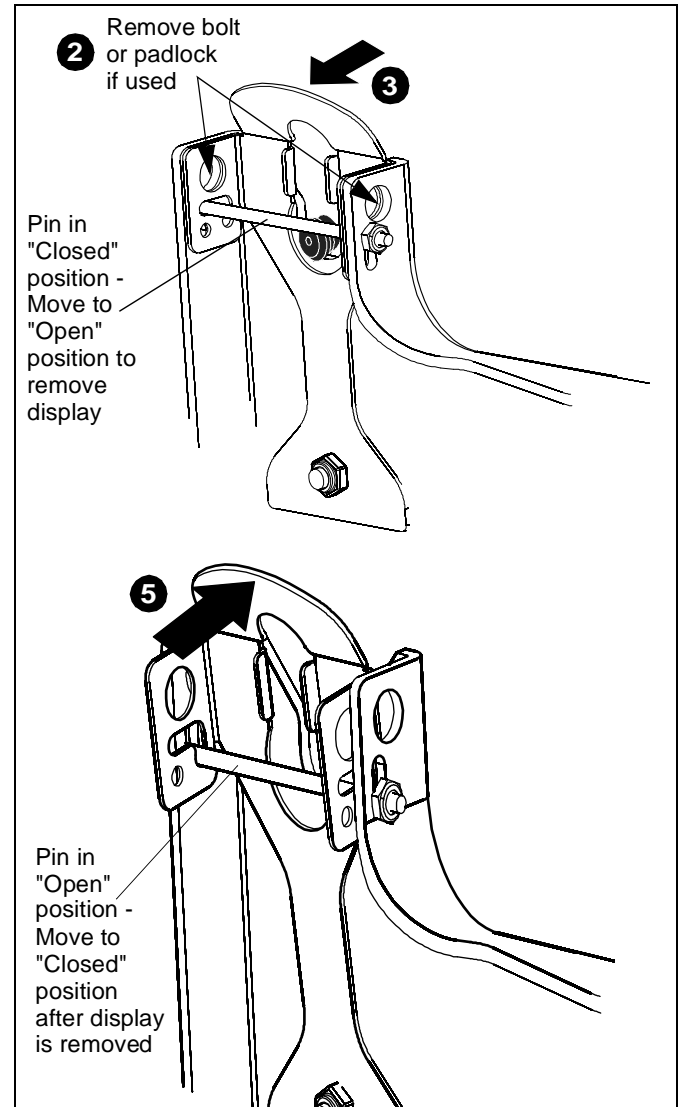

Figure 5
2. Remove bolt or padlock from faceplate (if used). (See Figure 5)
3. Pull back on flag on upper mounting hole and press pin down into "Open" position. (See Figure 5)
5. Lift up on pin and place flag back against faceplate to return it to "Closed" position. (See Figure 5)